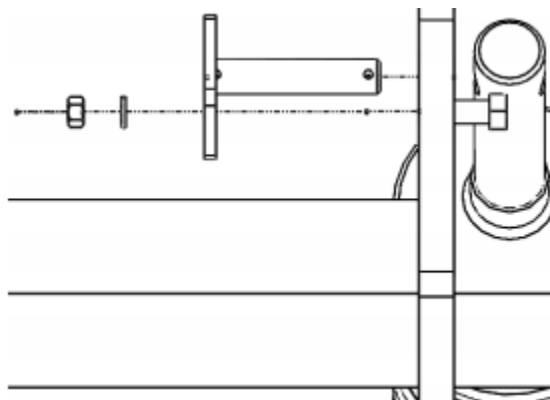

Figure 12
1. Align the upper Hydraulic Cylinder mounting hole with the corresponding holes on the H-Frame as shown in Figure 12 & 13.